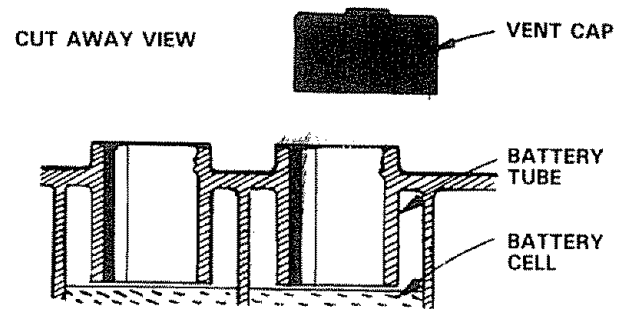

FIGURE 24
- a. Electrolyte solution level in each battery cell should be even with bottoms of tubes in cells (Fig. 24). Add only distilled water if necessary. NOTE: DO NOT OVERFILL. DO NOT ADD ACID.